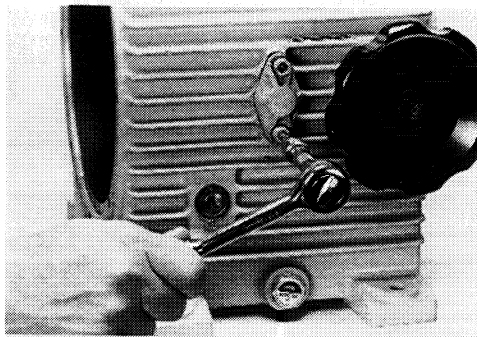

Fig. 17
Remove the bolts and the main relief valve cover (15) (Fig. 17).